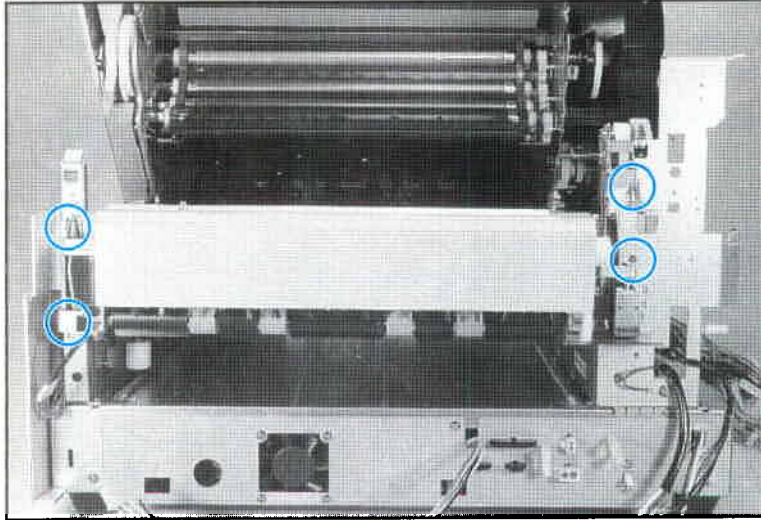

Figure 6-36 Paper Exit Mechanism Removal
3. Remove (4) M3X4 screws and connector from the Paper Exit assembly (see Figure 6-36).